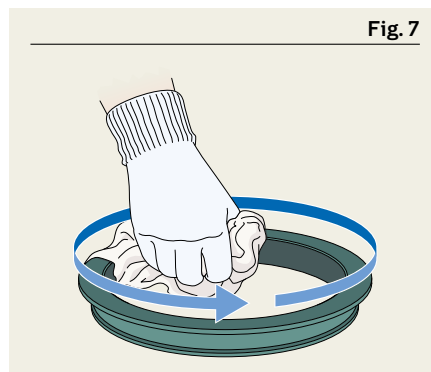

Fig. 7
- 3 Check the tools. Individually degrease the metal rings, paying particular attention to their surfaces. (**Fig. 7**).
- 3 Check the assembly tools. Individually degrease the metal rings, paying particular attention to their surfaces. (**Fig. 7**).